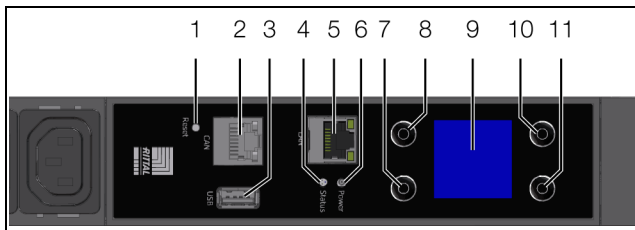

Fig. 19: Control and display elements and connections of the PDU metered/switched/managed
The control and display elements are shown in fig. 19. The display direction and the assignment of the four keys at the side of the display will depend on the installation direction of the PDU. The key to fig. 19 shows the key assignment where the PDU is installed with the electrical connection at the bottom. If the PDU is installed with the electrical connection at the top, the assignment of keys 7 and 10 as well as 8 and 11 is reversed. The actual assignment of the keys is shown correctly on the display.
A multi-LED for status display is integrated into the front of the PDU (fig. 19, item 4). Further LEDs are also located on the CAN bus connection (fig. 19, item 2) and on the Ethernet interface (fig. 19, item 5).
- Using a network cable, connect the device to your computer via the Ethernet interface (fig. 19, item 5).
- Connect the PDU to your Ethernet LAN with a network cable (fig. 19, item 5).